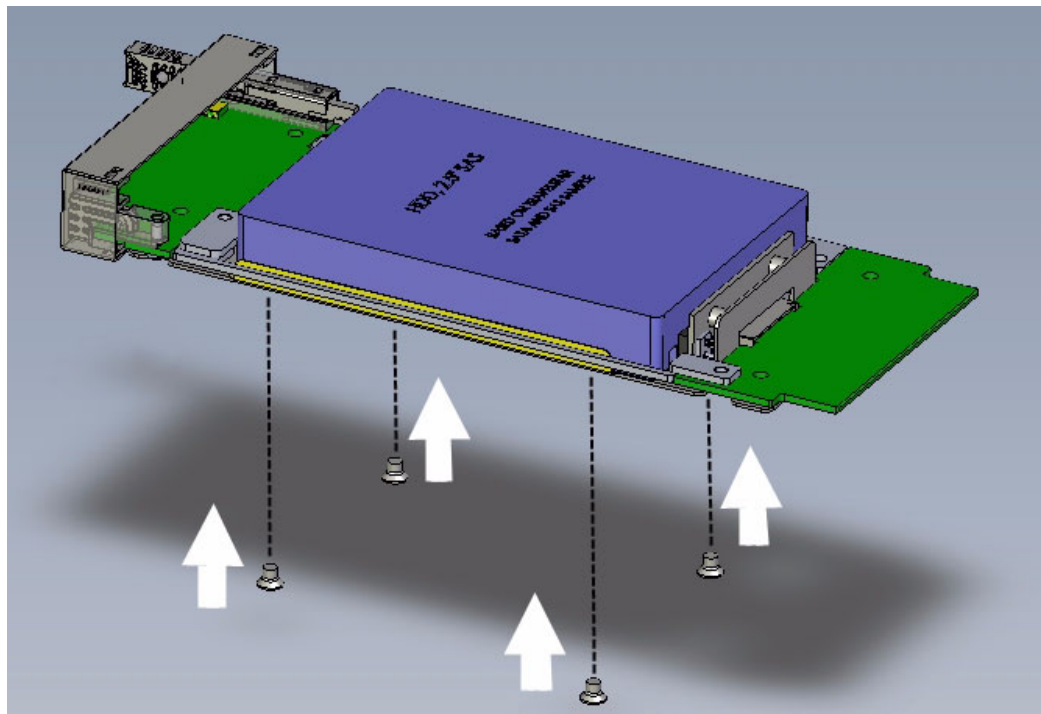

Figure 3.3 Attaching the HDD to the metal bracket
3. Use the four countersunk flat head screws (M3 x 4) to fasten the HDD to the metal bracket (see Figure 3.3). Tighten the screws so that their heads are flush with the bracket.